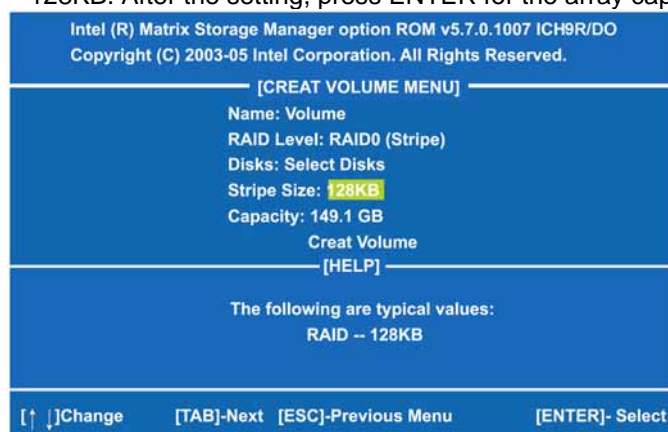

Figure 6
- (3)-4 Set the stripe block size (as Figure 6). The *KB* is the standard unit of stripe block size. The stripe block size can be 4KB to 128KB. After the setting, press ENTER for the array capacity.